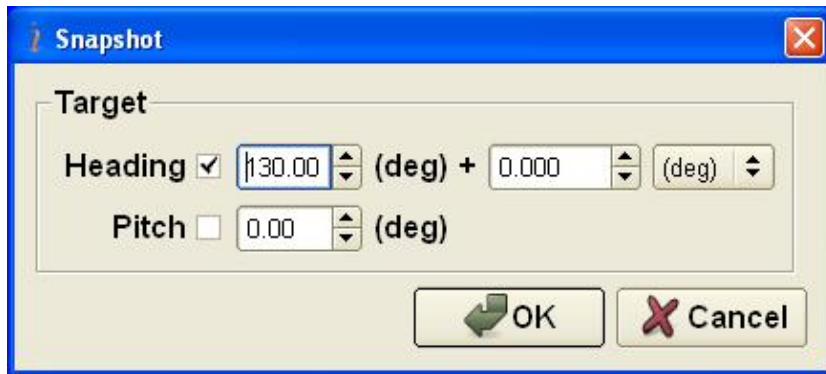

Fig. 10.15
Step 11. When the AHRS is set in necessary position and is ready to save data, click “**Snapshot**”  button. Window shown in Fig. 10.15 will appear.
Depending on known target orientation (its relative or absolute azimuth and pitch/elevation) select “**Heading**” or/and “**Pitch**” checkboxes (see Fig. 10.15).
If you have removed AHRS from carrier object, then you must clear parameters of soft/hard iron calibration. To do this follow Step 1 – Step 6 in section “8.2.1. Calibration in full azimuth range”. Next click the «**Clear**» button (see Fig. 10.15). Soft and hard iron calibration parameters will be removed from AHRS memory and window Fig. 10.15 will be closed automatically.